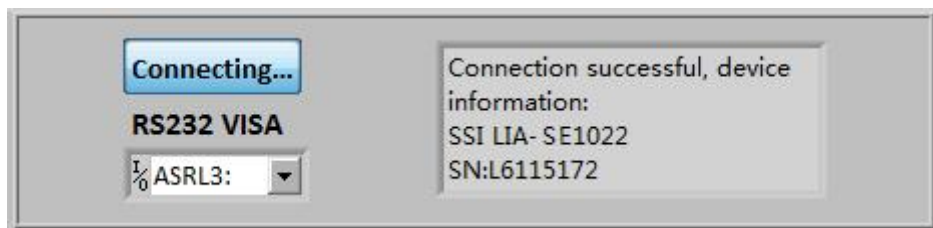

Fig.57 Connection Succeeds
The program begins to run and search for the proper COM automatically. If the connection succeeds, you will see the version information in Fig.57.
- If the COM is right, wait for a few seconds and the connection status will refresh to Fig.57.